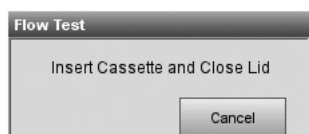

Fig. 8-23 Insert Cassette
- Insert a new cassette (Fig 8-23).